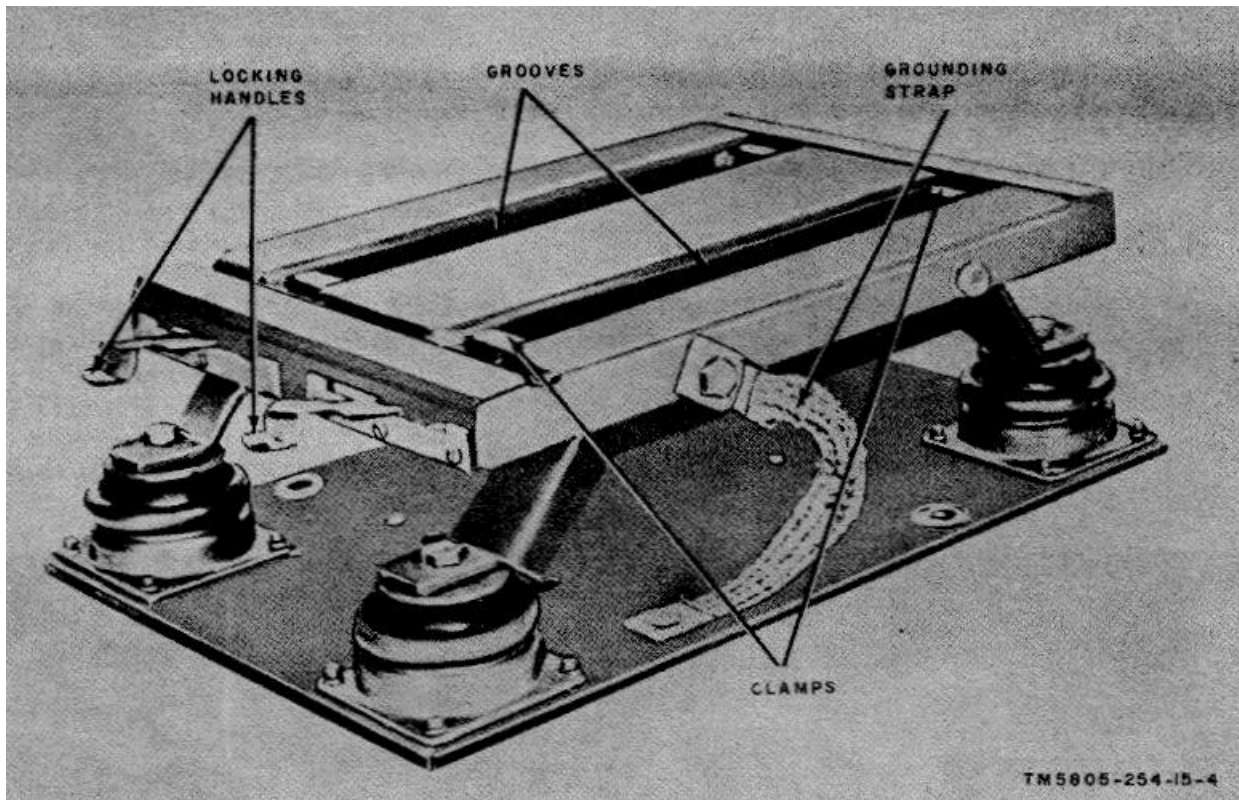

Figure 7. Mounting MT-791/U.
- (1) Unlatch and raise the cover assembly of the component.
- (2) For the TH-5/TG and the TA182/U loosen the three quick-release screws on the front panel; remove the front panel and chassis assembly from the case.
- (3) Install the component in the rack and secure it with the fastening devices.
c. installation in Mounting MT-791/U or MT-791A/U. Either Mounting MT-791/U (fig. 7) or Mounting MT-791A/U (not shown) can be used when a component of the AN/TCC-14 is mounted in a vehicle or on a workbench. Secure the component of the AN/TCC-14 to either mounting as described below.
- (1) Check to see that the mounting and its grounding strap are securely installed.
- (2) Push in on the locking handles on the front of the mounting.
- (3) Unlatch and raise the cover assembly of the component, and place the tracks of the component into the grooves in the mounting.
- (4) Pull the locking handles forward on the mounting. Make sure that the component is securely locked in place.
- (5) To remove the component from the mounting, push in on the locking handles, and lift the component from the mounting.